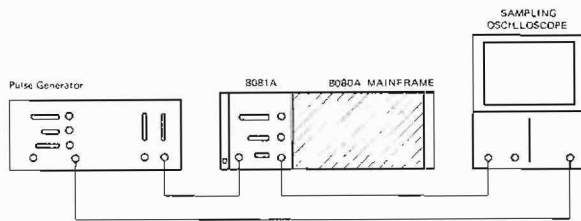

Figure 4-6. External Trigger Mode (Fast) Test Setup
1. Set up the equipment as shown in figure 4-6 and set the controls as follows: